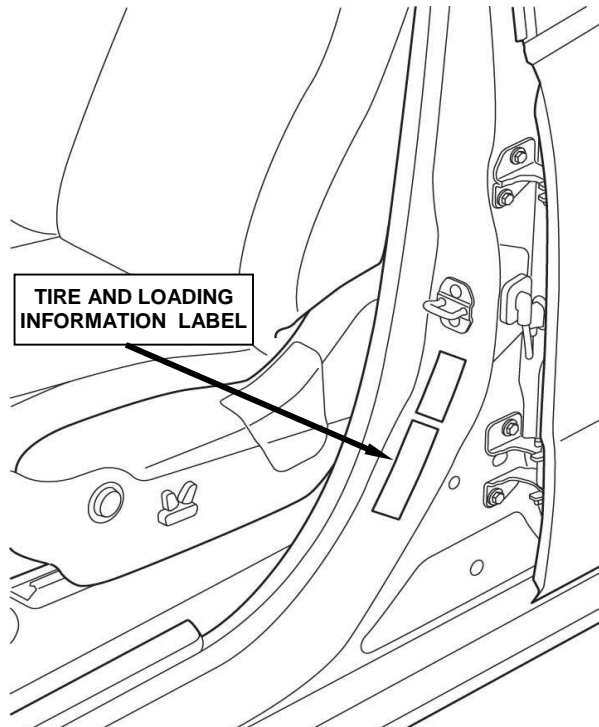

Figure 1 – Driver's Side Front Door Shown
1. Open the driver's door and locate the Tire and Loading Information label on the driver's side "B" pillar as shown in Figure 1.